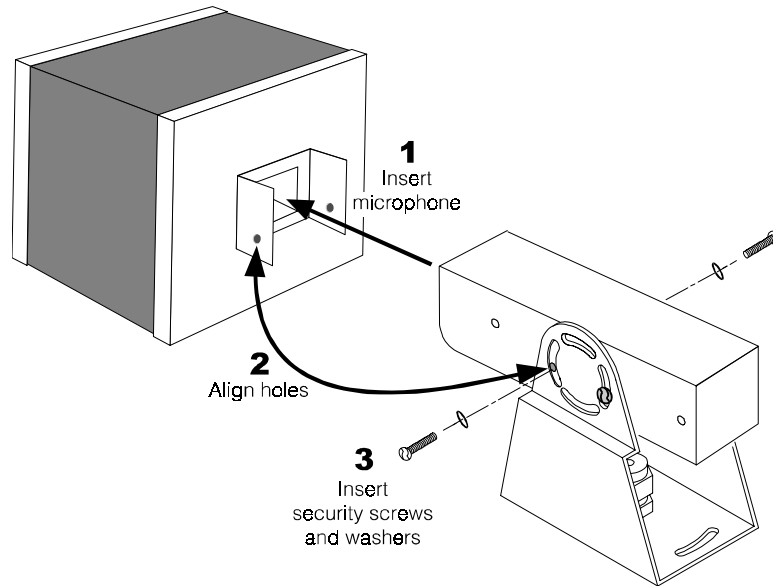

Figure E-6. Install windscreen on microphone
- Insert the front end of the microphone into the foam-lined hole in the windscreen so the screw holes on the windscreen flanges are aligned with the holes on the sides of the microphone mounting bracket as shown in Figure E-6.
- Place the two screws and washers through the holes on the windscreen and mounting bracket, into the screw holes on the sides of the microphone unit as shown in Figure E-6. Use a standard (slotted) screwdriver to tighten the screws in place.
- Install the windscreen on the microphone as shown in Figure E-6.